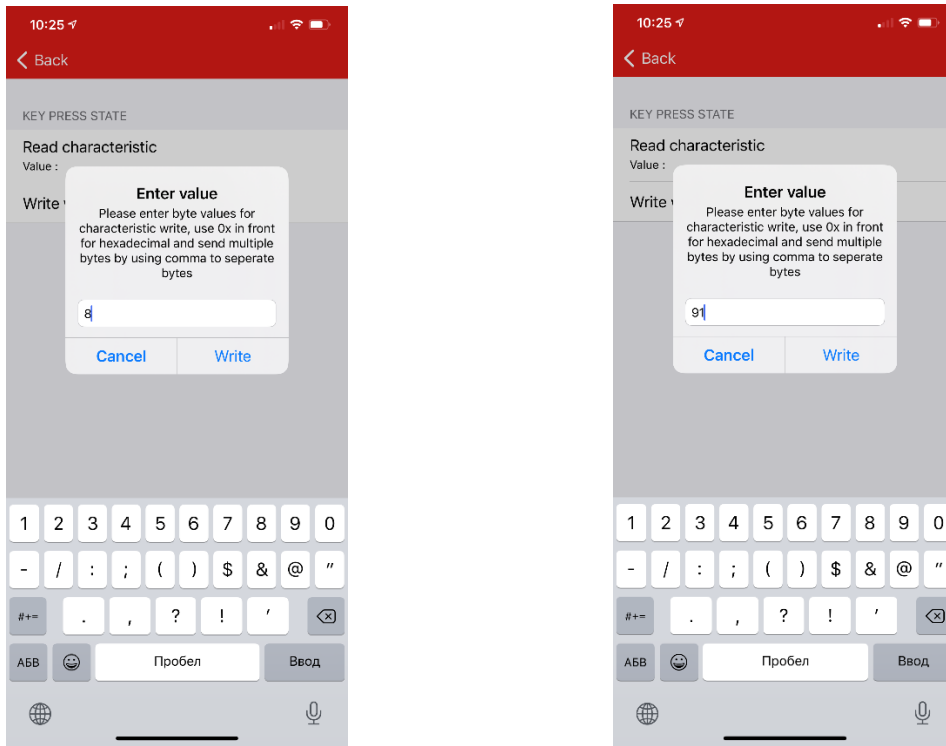

Figure 5 Command Write Example
4. Write command in Enter Value popup menu to transfer command to SPM-010 device (see Figure 5)